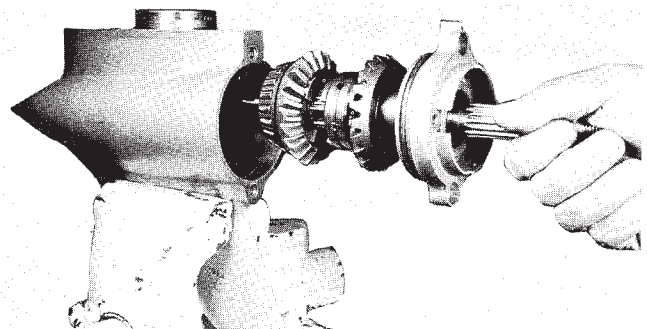

FIGURE 44 — INSTALLING BEVEL GEAR BEARING
4. Remove propeller shaft bearing cage outer "O" ring seal and insert propeller shaft assembly into gear housing, as shown in Figure 44. The bearing cage will serve as a guide to align the front bevel gear bearing. The front bevel gear bearing should slide into place when properly aligned.